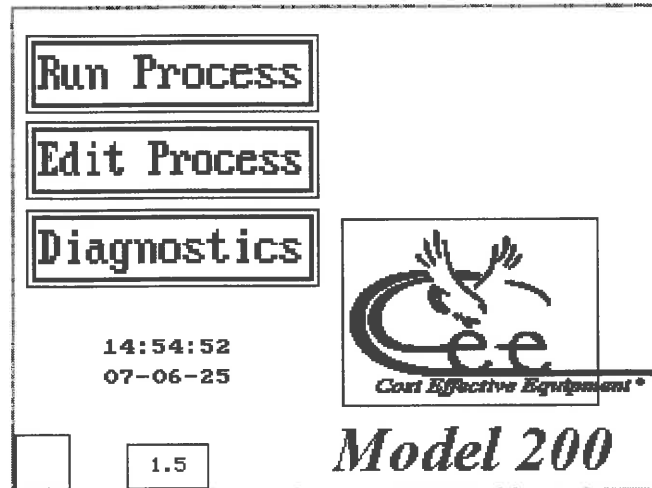

Figure 4 – Main Screen
- (1) Press the software version number near the lower left of the screen (see Figure 4).
- (2) Press the Restore Defaults button.
- (3) Turn the power off, then on. This restores factory default settings.
- (4) Press Diagnostics to show diagnostic screen (see Software for access procedure)
- (5) Press the ON/OFF Control Button to start and stop the spinner.
The Cee™ 200 offers a familiar interface that is similar in appearance and operation to a physical panel. At power-up, the display will show boot screen diagnostics and then switch to the main menu shown here in Figure 4.